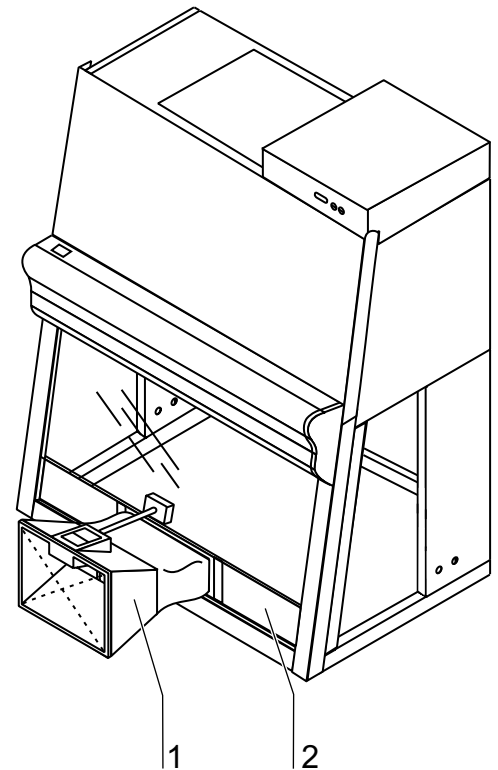

Fig. A5,
**Fig. A5:** The inflow air volume is measured in the work aperture. The flow hood [1] is installed in the work aperture [2], and the testing equipment vorgesehene Stelle an der Eintrittsöffnung is installed immediately at the flow hood discharge opening.